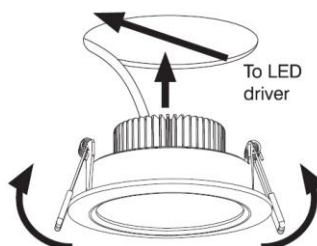

FIG 4
- Push the side springs up against the body of the Downlight and gently locate the LED body through the hole and ensure it is flush against the ceiling (FIG 4).